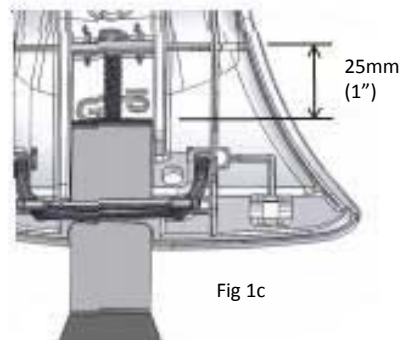

Fig 1c
5. Leave approximately 1" (25mm) of gap between the top of the Strap and the bolt head. This will aid in installation to the door frame (Fig 1c)